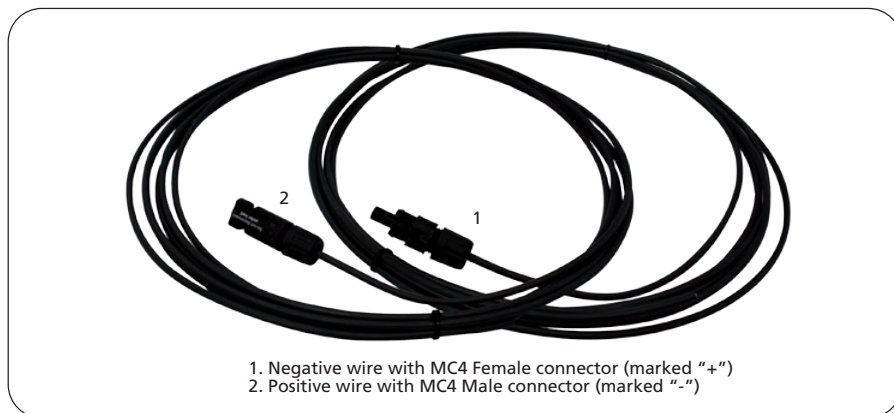

Fig. 4.5. Solar Panel Connecting Wires kit "SCW-20-2"
1. Solar Panel Connecting Wires kit "SCW-20-2" consisting of 2 pre-assembled, 20 ft, AWG #12, Positive (+) & Negative (-) PV extension wires have been provided (see Fig. 4.5). The wires have MC4 mating connectors on one end for connecting to the solar panel & bare ends on the other side for connecting to the Charge Controller.